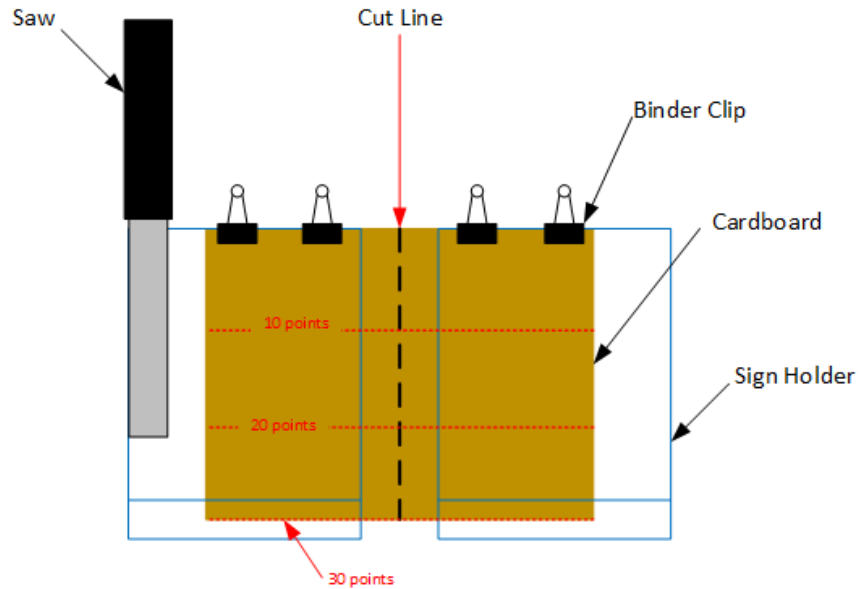

Fig. 6. Cut Cardboard setup
2. Mark a 30.5 cm (12 in) cardboard filler insert with cut line at center and mark scoring at 1/3 intervals, 10.2 cm (4 in), along cut line (Figure 6)